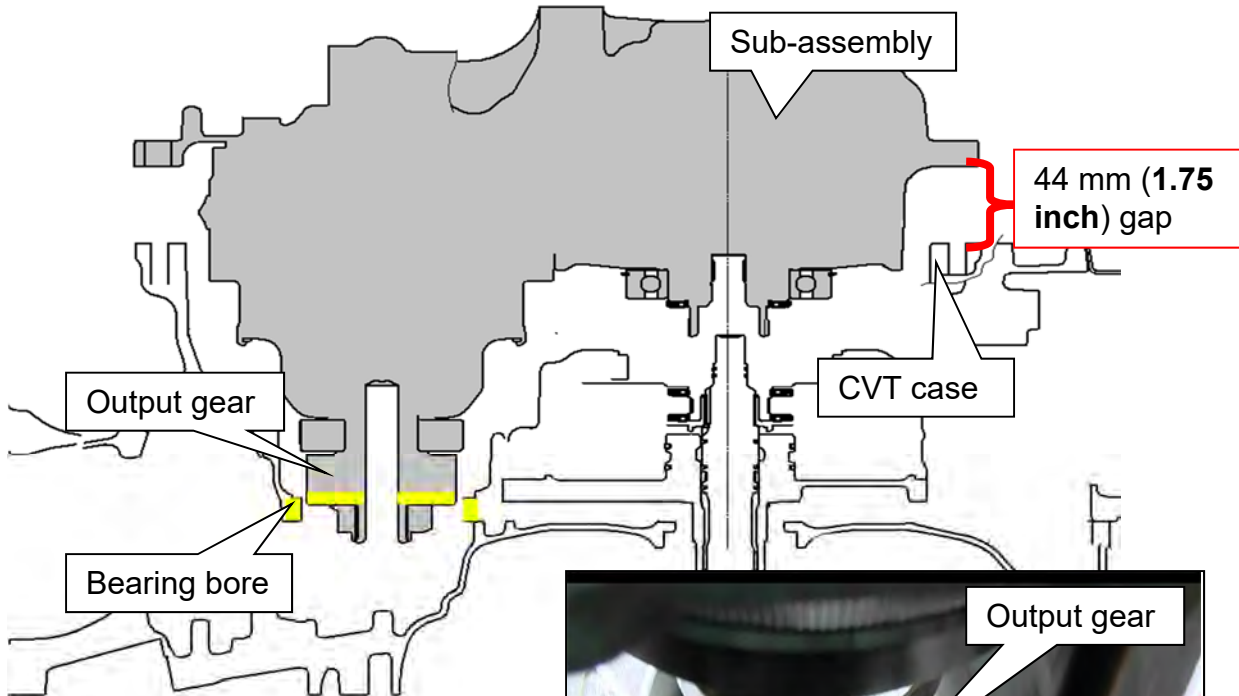

Figure 94
- If the sub-assembly will not lower any farther than 44 mm (1.75 inch) the output gear has not cleared the bearing bore (Figure 94).